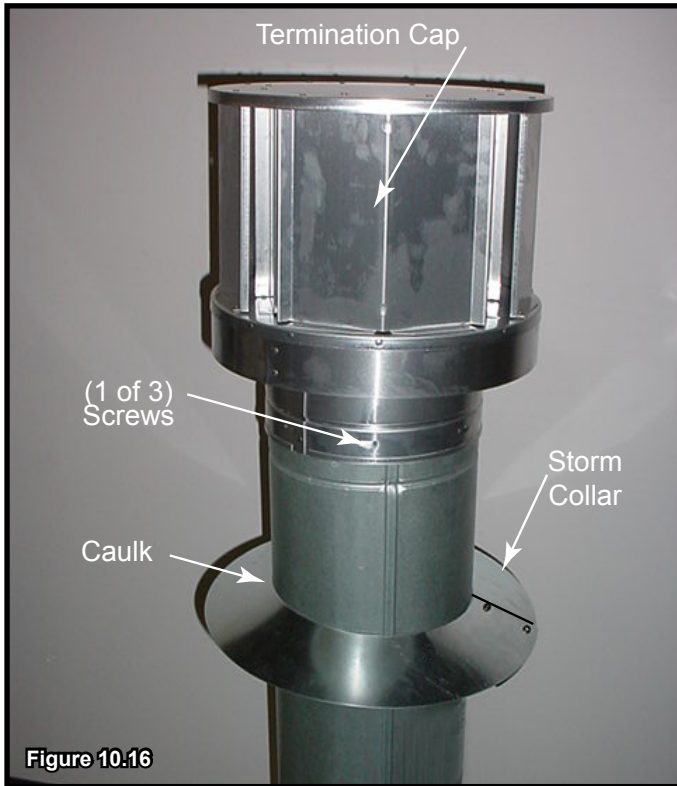

Figure 10.16
- Caulk around the top of the storm collar. See Figure 10.16.
- Secure the cap by driving three self-tapping screws (supplied) through the pilot holes in the outer collar of the cap into the outer flue of the pipe (see Figure 10.16).